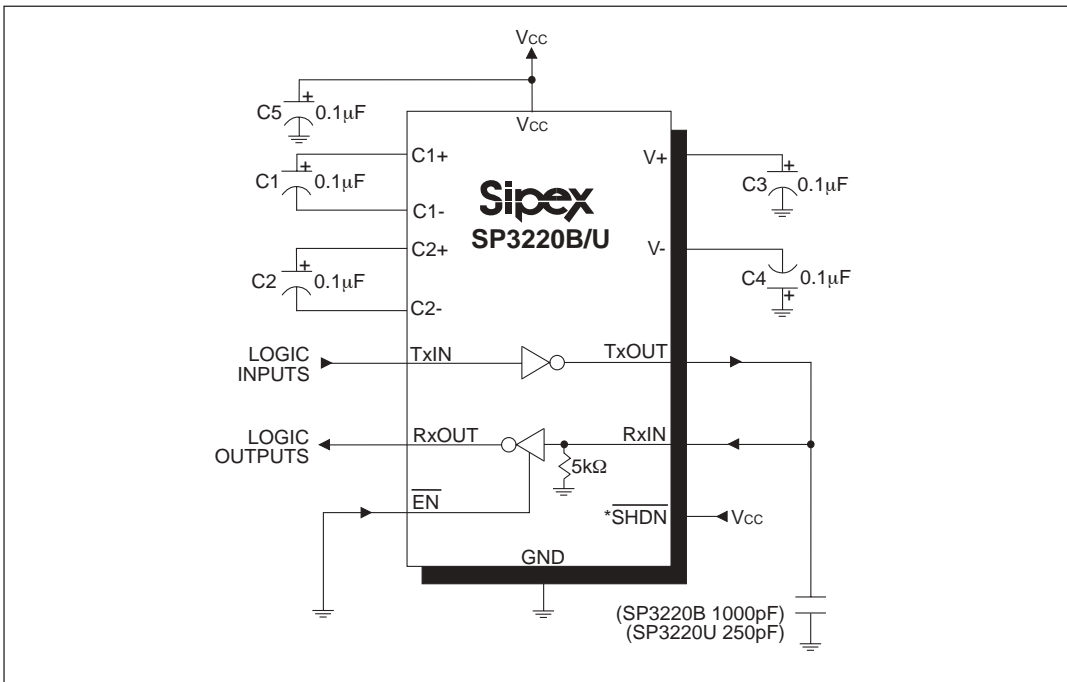
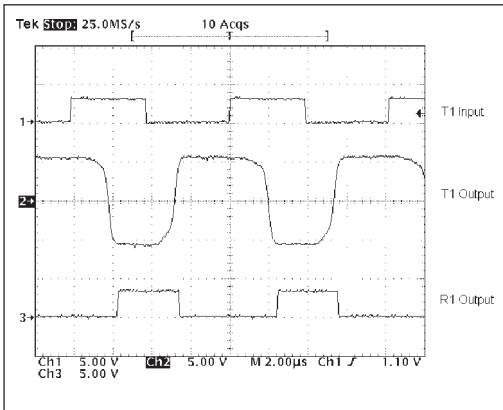
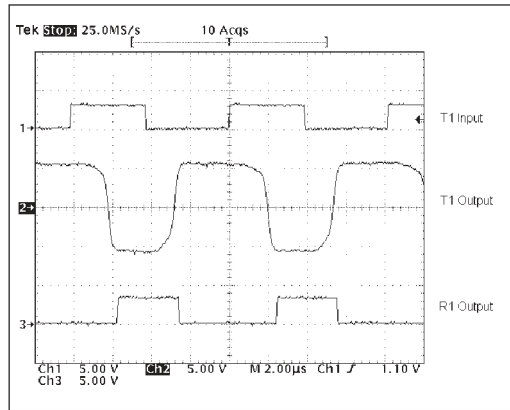

Figure 12. SP3220B/U Driver Loopback Test Circuit
Figure 13. SP3220B Driver Loopback Test Results at 250Kbps
Figure 14. SP3220U Driver Loopback Test Results at 1Mb/s
*Figure 12* shows a loopback circuit used to test the RS-232 driver. *Figure 13* shows the test results of the loopback circuit with the **SP3220B** driver active at 250Kbps with an RS-232 load in parallel with a 1000pF capacitor. *Figure 14* shows the test results where the **SP3220U** driver was active at 1000Kbps and loaded with an RS-232 receiver in parallel with a 250pF capacitor. A solid RS-232 data transmission rate of 250Kbps provides compatibility with many designs in personal computer peripherals and LAN applications.